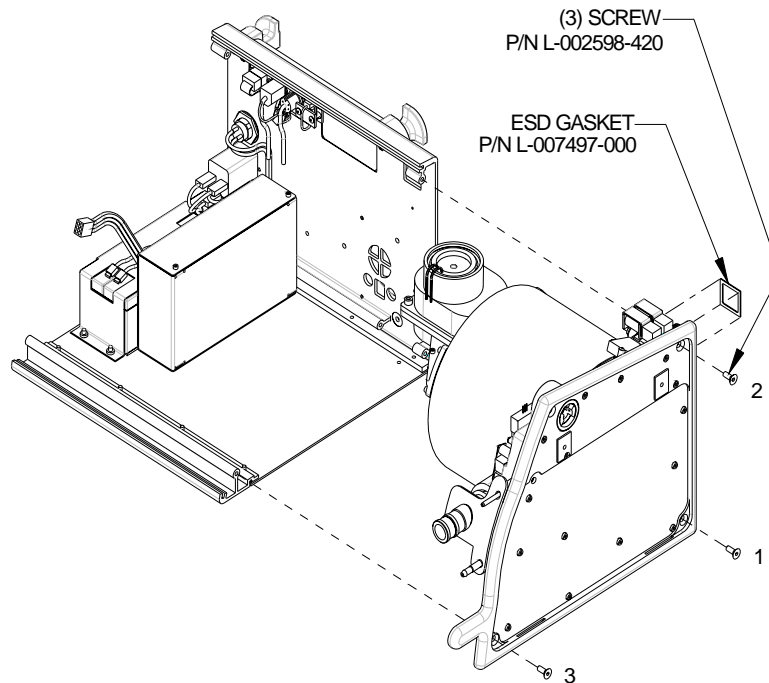

FIGURE 5-2.
3. Install the square ESD gasket, P/N L-007497-000, over the O2 inlet port and onto the square seat of the O2 blender; or, onto the square seat of the blender filler block. See Figure 5-2.
4. Being careful not to pinch any wires, set the right end assembly into position. Verify the square ESD gasket installed in step 3 is still in place. See Figure 5-2.
5. Use an 1/8-in hex driver to attach the right end assembly by starting 3 screws, 10-32 x 1/2-in (P/N L-002598-420), in the order shown in Figure 5-2.
6. Use an 1/8-in hex bit and a Makita torque driver set at “5” with the speed range set at “L” (or equivalent) to secure the right end assembly by tightening the 3 screws in the same order. See Figure 5-2.